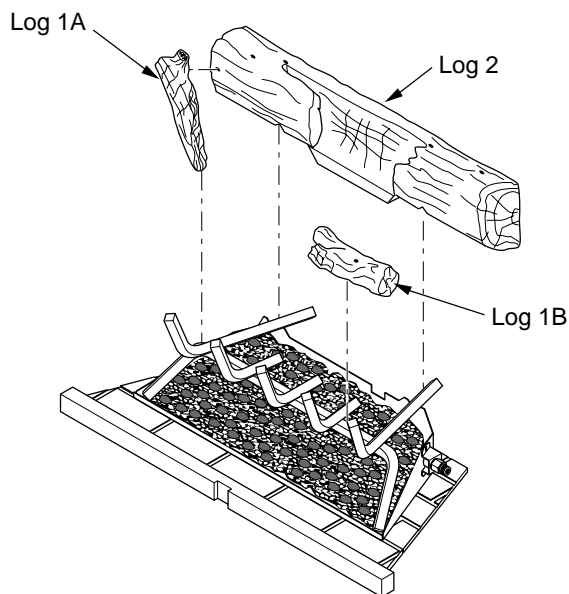

Figure 29 - Installing Logs 1A, 1B and 2
1. Place log 1A on the front left side of grate. Place log 1B on the front right side of the grate. See Figure 29.
2. Place large back log (log 2) onto grate making sure notches rest over grate. Insert peg on back of log 1A into hole on front left of log 2 (see Figure 29).